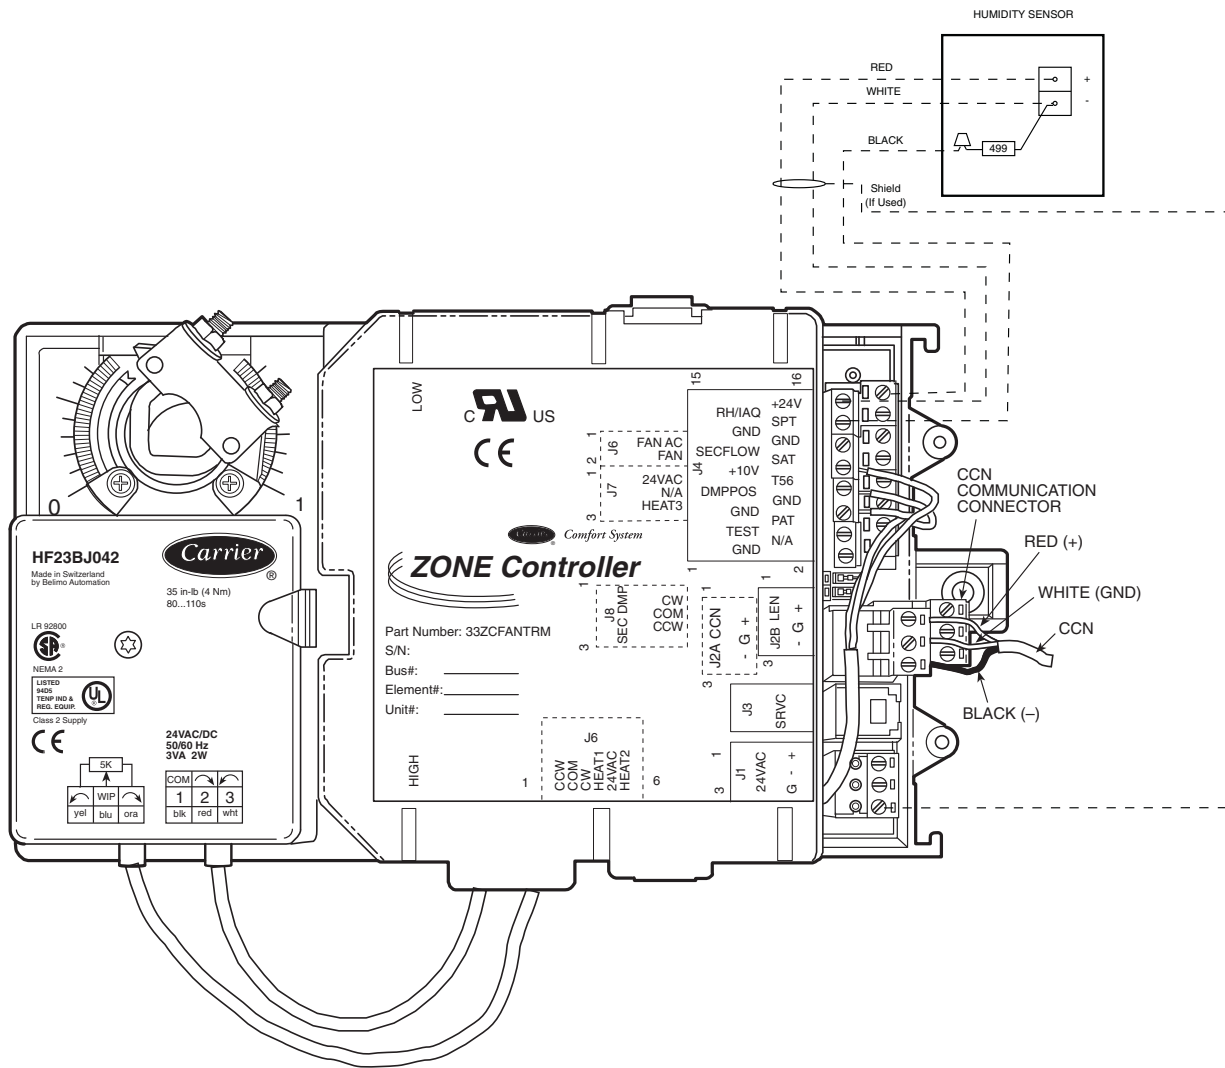

Fig. 26 — Zone Controller Connections
1. At the sensor, remove 4-in. of jacket from the cable. Strip 1/4-in. of insulation from each conductor. Route the cable through the wire clearance opening in the center of the sensor. See Fig. 26.
4. Refer to Fig. 26. Connect the other end of the communication bus cable to the terminal block labeled CCN in the zone controller of the first air terminal. Following the color code in Table 11, connect the Red (+) wire to Terminal 1. Connect the White (ground) wire to Terminal 2. Connect the Black (-) wire to Terminal 3.